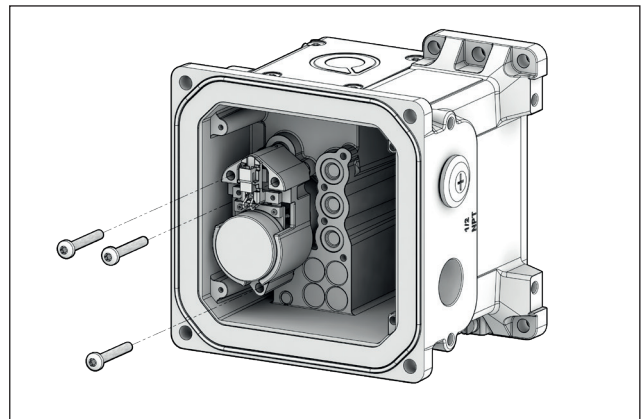

Fig. 79. NDX\_511\_ and NDX\_512\_ prestage location.
- Unplug the prestage wire connector from the prestage (Fig. 79)
- Loosen the screws holding the prestage in place. (Fig. 79)